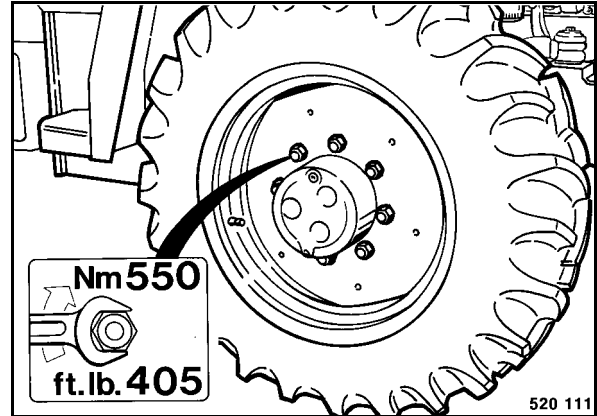

Fig. 95
- Tighten the wheel nuts (Fig. 95) in a crosswise pattern.